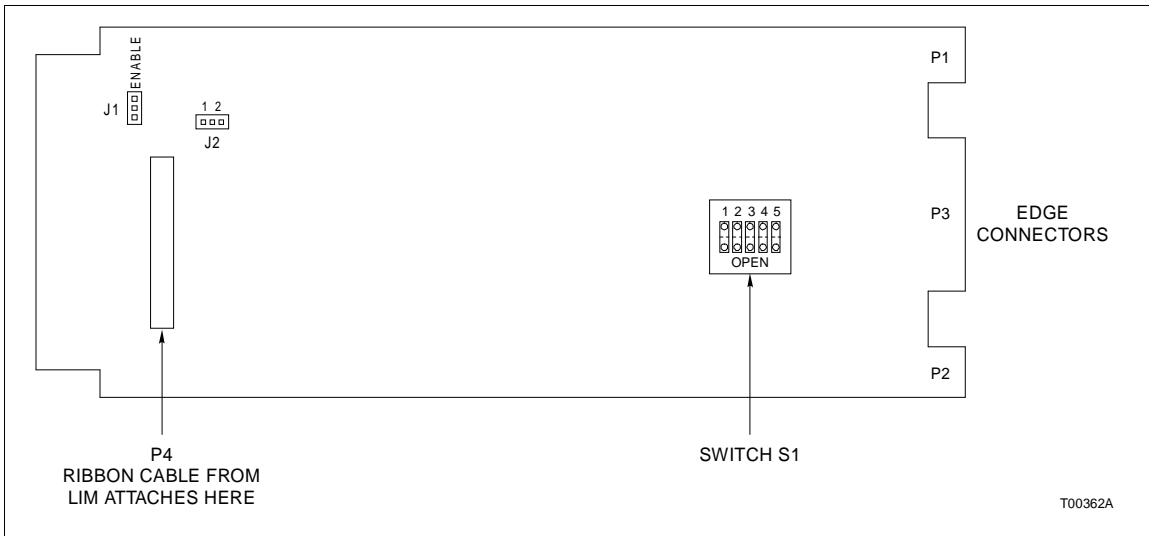

Figure 3-2. Bus Interface Module Component Locations
There are two jumpers on the BIM. Jumper J1 is used to ENABLE or DISABLE the Power System Status Message that is sent to an Operator Interface Station. Jumper J2 is used to convert the NBIM02 to a NBIM01. See Figure 3-2.
3. Jumper J1 is used to ENABLE or DISABLE the status signal monitored by the Power Entry Panel in a hardware cabinet. If the BIM is being used in a Mini-90 enclosure, the jumper should be set in the DISABLE position (lower two posts, Figure 3-2); otherwise leave in the ENABLE position (upper two posts, Figure 3-2).